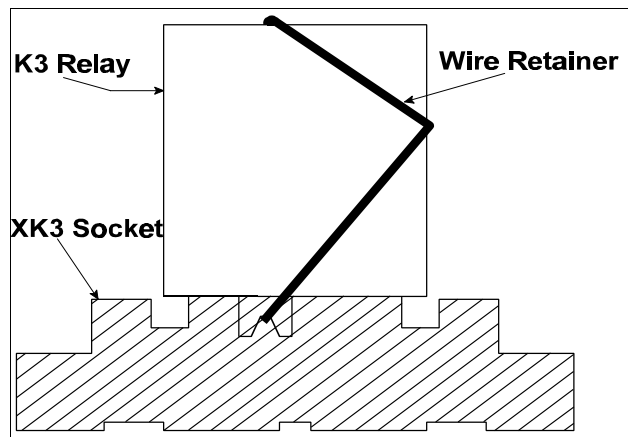

Figure 5 High Power Relay - Side View
12. Install the K3 relay onto the XK3 socket. Attach the wire retainer to the XK3 socket and over the K3 relay. Refer to figure 5.